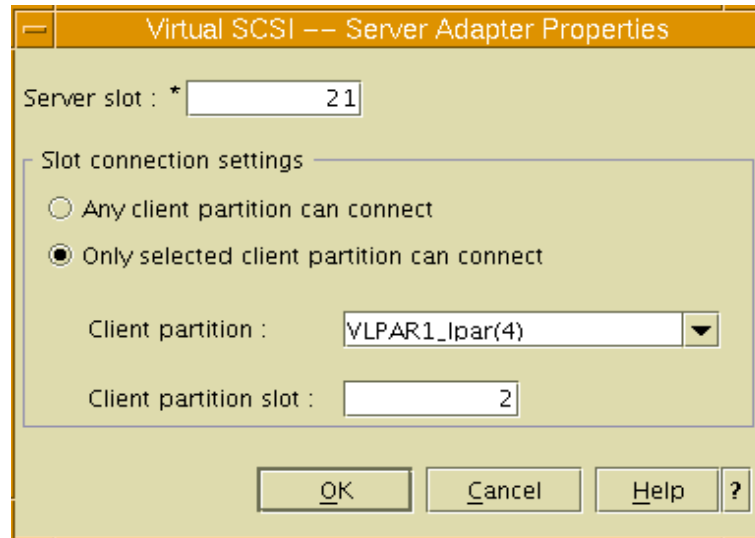

Figure 4-22 Key in the server and client virtual SCSI ID
3. Specify the server's SCSI slot ID. If you have already created an LPAR, you can key in the client partition name and its slot ID. If not, check on the "Any client can connect". Remember to come back to check on the correct Client partition after the client partition is created. See Figure 4-22 on page 383.